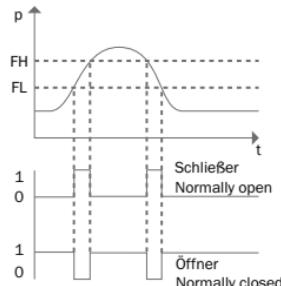

Figure 4: Window function
The window function enables monitoring of a defined pressure range. If the system pressure is between the lower window limit (FL) and upper window limit (FH), the output will be active (normally open, n.o.) or deactivated (normally closed, n.c.) (See Figure 4).